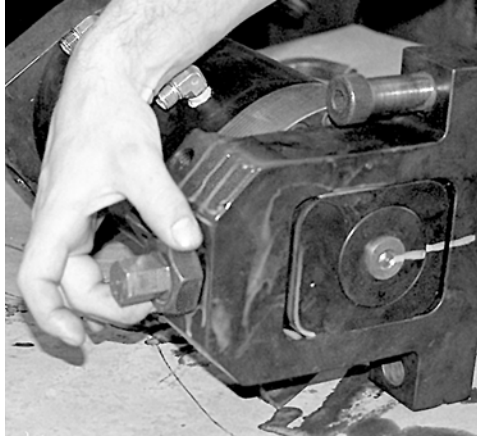

Figure 5-21. Installation of Jam Nut
8. Install the jam nut onto the adjustment screw (see Figure 5-21).